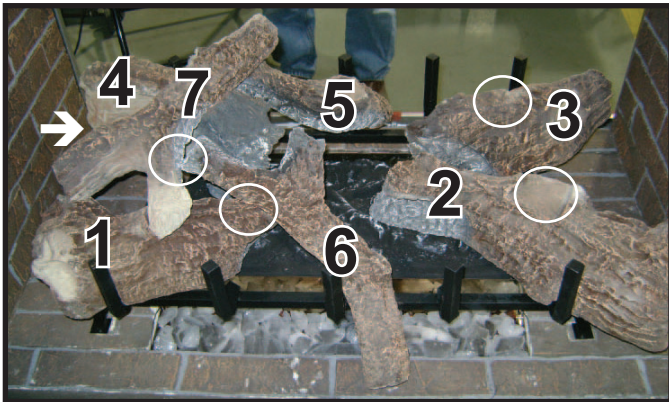
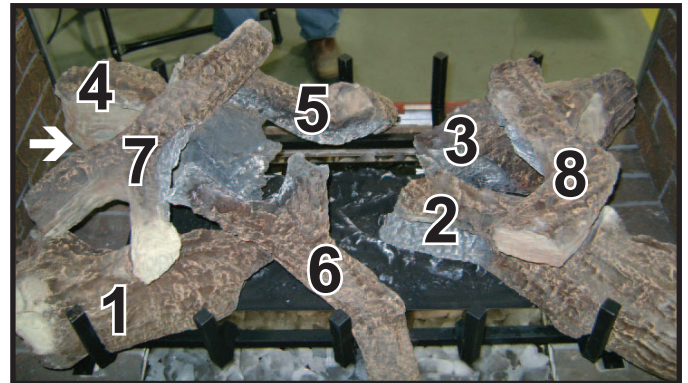

Figure 14.
Figure 15.
**LOG NUMBER 6 (SRV2146-706):** Place Log #6 onto grate and log #1. The groove on the bottom of the log will engage the center grate bar and the other end of the log will rest on Log #1, with the tip touching Log #7. The points of contact are indicated by the circles located on Log #6 and Log #7 in Figure 14. The log must **NOT** block or sit directly over any burner ports.
**LOG NUMBER 8 (SRV2146-708):** Locate notch on Log #2 and notch on Log #3 indicated by the circles on Figure 14. Place Log #8 so that it rests in these notches. See Figure 15.